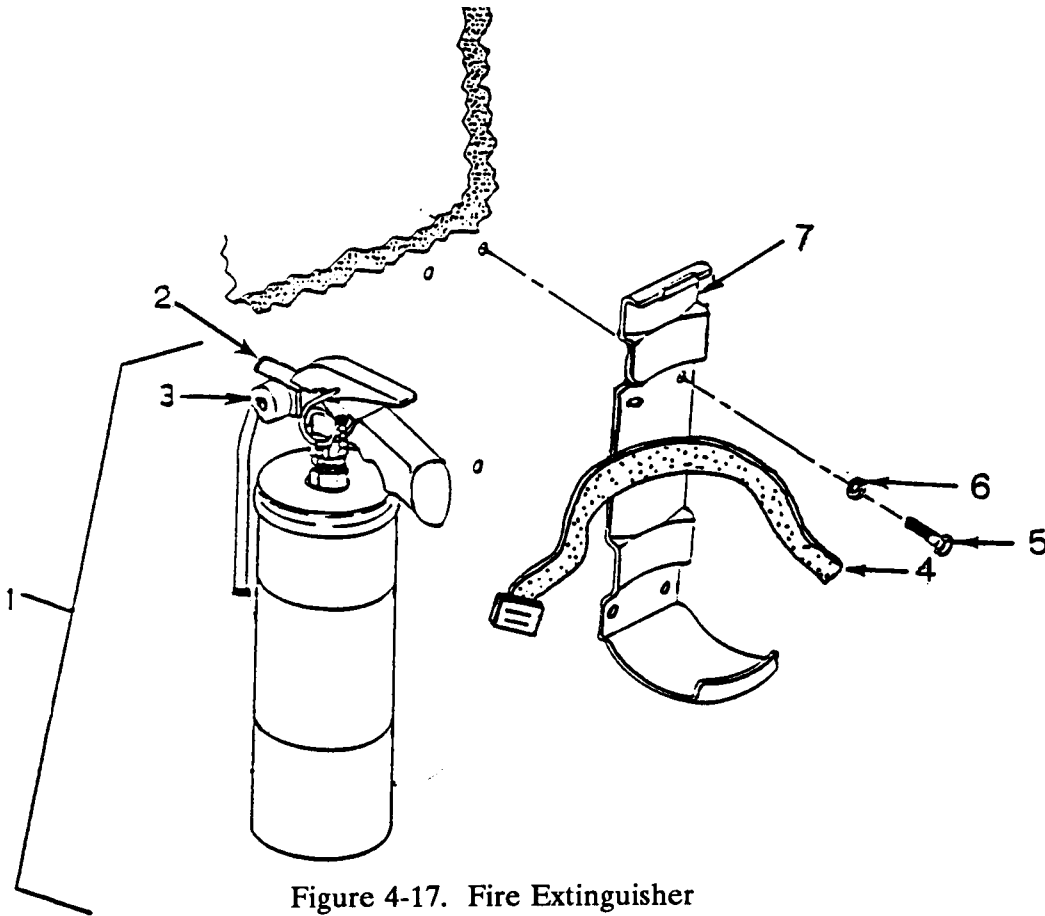

Figure 4-17. Fire Extinguisher
a. Inspection. (See Figure 4-17.)
- (1) Check fire extinguisher (1) on curbside shelter wall for security of mounting.
- (2) Check fire extinguisher nozzle (2) and pressure gage (3) for security and proper reading.
- (3) Check inspection tag for current date and initials.
b. Replace. (See Figure 4-17.)
- (1) Unlock mounting bracket quick release (4) and remove fire extinguisher (1)
- (2) Remove mounting bracket screws (5) and lockwashers (6), and remove mounting bracket (7) from wall.
- (3) Install mounting bracket (7) with screws (5) and lockwashers (6).
- (4) Place fire extinguisher (1) on mounting bracket (7).
- (5) Lock mounting bracket quick release (4).